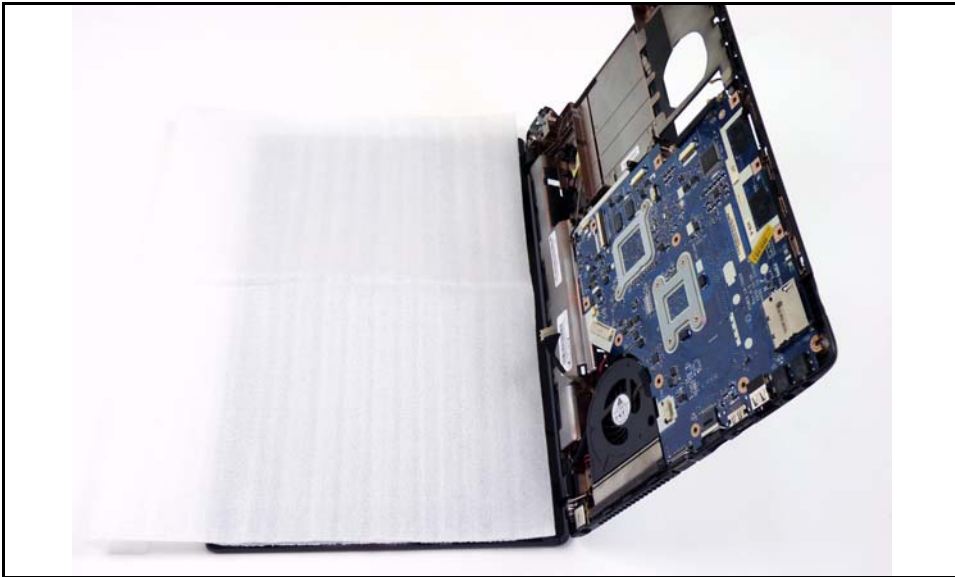

Figure 3-29. Mainboard
6. Put computer with the LCD module flat on the surface. (Figure 3-29)
7. To avoid damage, put a nonabrasive, protective cover over the LCD panel. (Figure 3-29)
2. Put computer with the LCD module flat on the surface. (Figure 3-29)
3. Put a nonabrasive, protective cover over the LCD panel. (Figure 3-29)